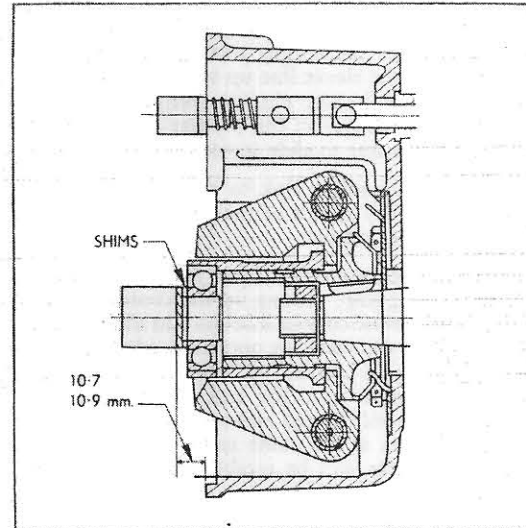

Fig. 45
11. When reassembling the governor front housing it should be noted that if this housing is to be renewed or if the hub sleeve, fork and bearing assembly has been dismantled and any of the parts renewed, it should be reassembled with sufficient shims between the fork and the bearing to give a dimension of 10.7 to 10.9 mm. between the front face of the governor housing and the inside face of the fork (see Fig.45). This measurement to be taken with the hub bush fully "in" so that the weights are closed and with no gasket fitted. It is therefore advisable, if the stated parts have been renewed, to carry out this check by performing operations 13, 18 and 19 before proceeding with the assembly.